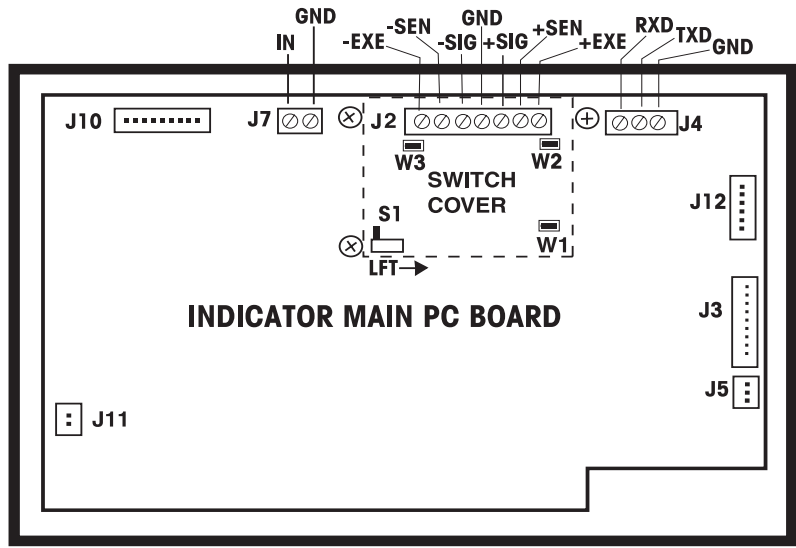

Figure A-2. Printed Circuit Board Connections.
Figure A-2 illustrates the locations of the printed circuit board connections.
Remove the 3 screws securing the switch cover over Terminal Strip J2. Refer to the manufacture's wiring code of the load cell cable and connect the wires to Terminal Strip J2 according to the proper signal name. See Figure A-2. Tighten all terminal screws securely.
- Match the wire signals to connector J4 on the main PC board and connect the cable accordingly. See Figure A-2.
- Connect the cable to connector J7 on the main PC board. See Figure A-2.